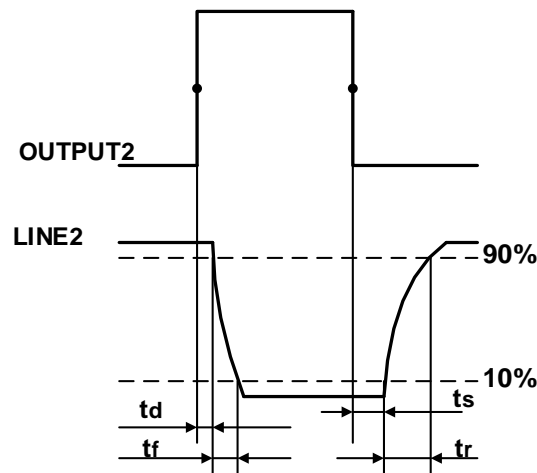

Figure 7-24 Parameter of Line2 output circuit
- Rising time delay =  $t_d+t_f$ :  $<20\mu\text{s}$  ( $0^{\circ}\text{C}\sim 45^{\circ}\text{C}$ ) (parameter description as shown in Figure 7-24)
- Falling time delay =  $t_s+t_r$ :  $<20\mu\text{s}$  ( $0^{\circ}\text{C}\sim 45^{\circ}\text{C}$ ) (parameter description as shown in Figure 7-24)